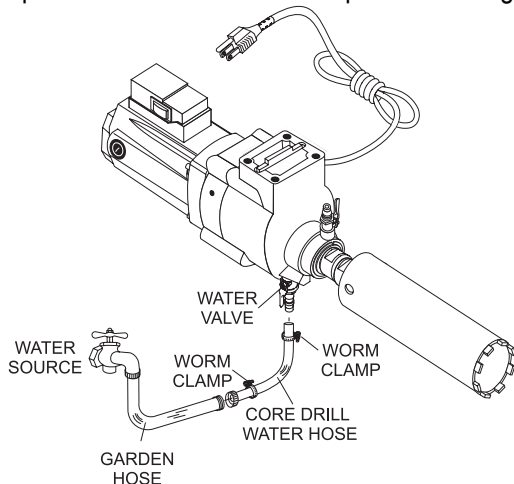

Figure 18. Connecting the Water
1. Attach the supplied water hose and garden hose fitting to the core drill as shown in Figure 18. Be sure to place worm-clamps on each end of the hose to prevent leaking.